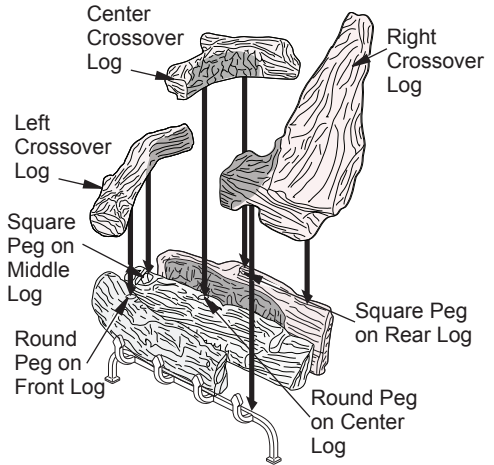

Figure 20 - Installing Left, Center and Right Crossover Logs
4. Place left crossover log as shown in Figure 20, page 18. Match square peg on top of center log with square hole on bottom of left crossover log. Match pin on top of front log with round hole on bottom of left crossover log.
5. Place center crossover log as shown in Figure 20, page 18. Match square peg on top of rear log with square hole on bottom of center crossover log. Match pin on top of center log with round hole on bottom of center crossover log.
6. Place left front crossover log as shown in Figure 20. Log should rest on the grate and fit into recess area on the center log.